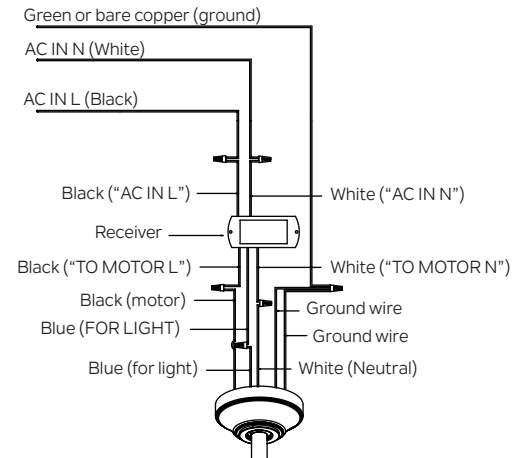

Fig. 14
**Step 2.** Motor to Receiver Electrical Connections: Connect the BLACK wire from the fan to BLACK wire marked "TO MOTOR L" from the receiver. Connect the WHITE wire from the fan to the WHITE wire marked "TO MOTOR N" from the receiver. Connect the BLUE wire from the fan to the BLUE wire marked "FOR LIGHT" from the receiver. Secure all the wire connections with the plastic wire connectors provided. ( Fig. 14)
**Step 3.** Remote Receiver to Outlet Box Electrical Connections: Connect the BLACK (hot) wire from the ceiling to the BLACK wire marked "AC IN L" from the receiver. Connect the WHITE (Neutral ) wire from the ceiling to the WHITE wire marked "AC IN N" from the receiver. Secure all the wire connections with the plastic wire connectors provided. ( Fig. 14)
**Step 4.** If your outlet box has a ground wire (green or bare copper) connect it to the fan ground wires. Otherwise, connect the fan ground wire to the mounting bracket. Secure the wire connection with a plastic nut provided. After connecting the wires, spread them apart so that the green and white wires are on one side of the outlet box and black and blue wires are on the other side. (Fig. 14)